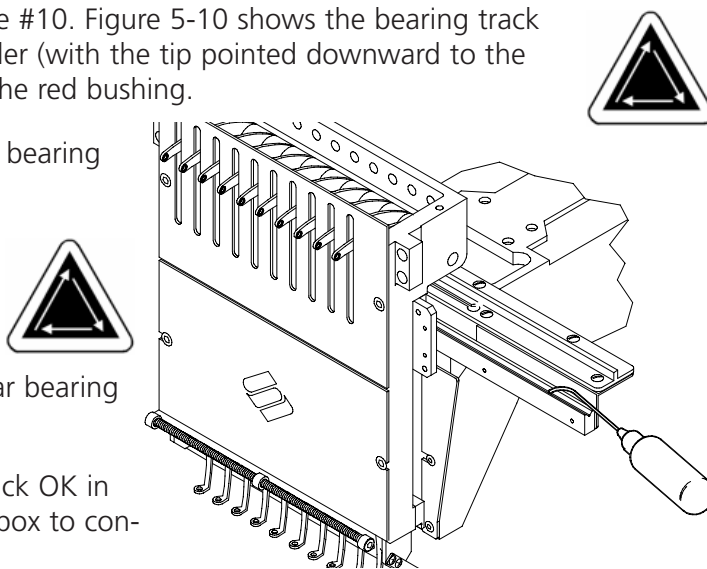

Figure 5-10
1. The needle cases are already on needle #10. Figure 5-10 shows the bearing track with the panels removed. Insert the oiler (with the tip pointed downward to the bearing track) through the hole with the red bushing.